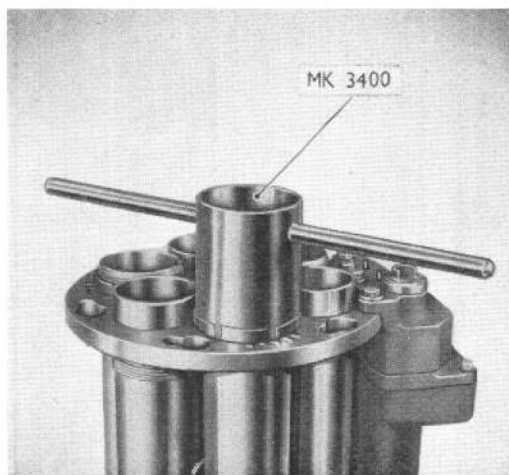

Fig. 12. Spanner for barrel ring-nuts
33. To remove the barrel plate (fig. 12) ◀ fit the nozzle body to fixture MK 3836 ▶ disconnect the overspeed cable assembly from the indexing